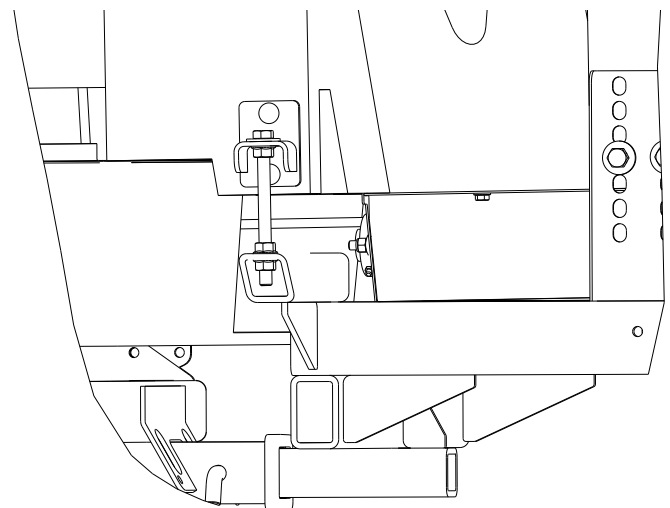

Fig. 6
6. Tighten nuts located under frame evenly on both sides of the spreader (10-15 ft-lb's. torque). Then tighten bolts in frame uprights. Finally tighten nuts located between hopper side brackets and frame. They must look as shown in Fig.6. After this procedure spreader should be securely attached to trucks bumper and frame.